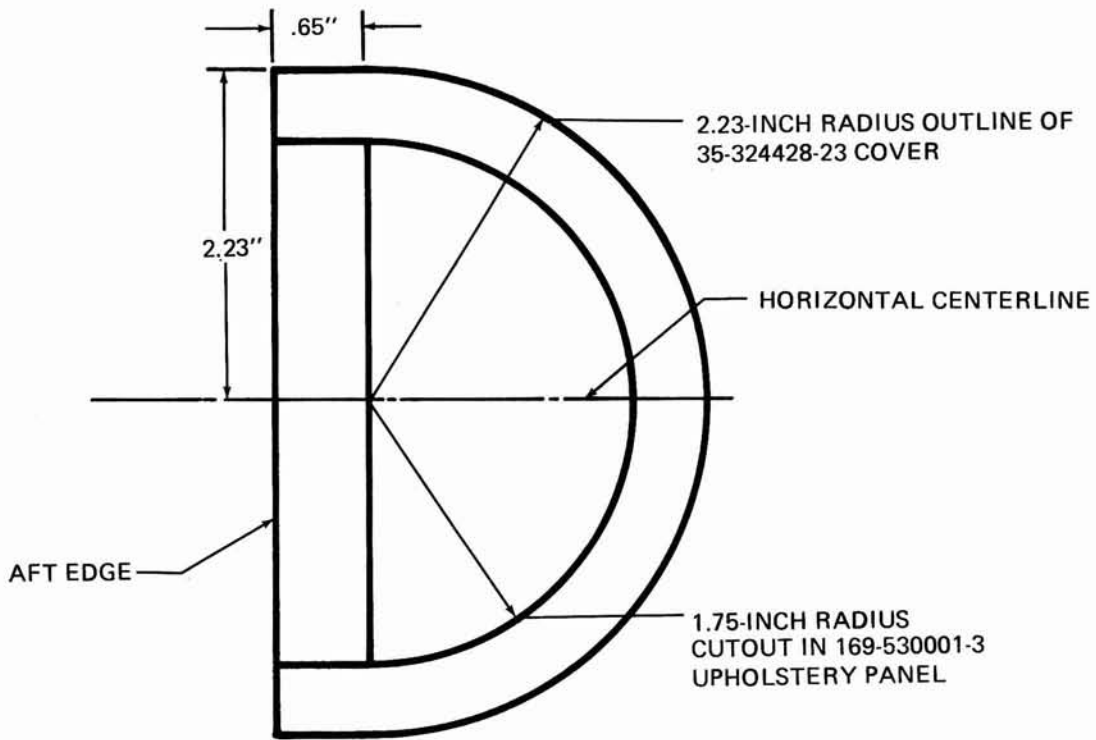

Figure 2
4. The cutout in the upholstery panel may be accomplished as follows: (Refer to figure 2 for steps 4a through 4e.)
- e. Cut the template out as shown in figure 2.